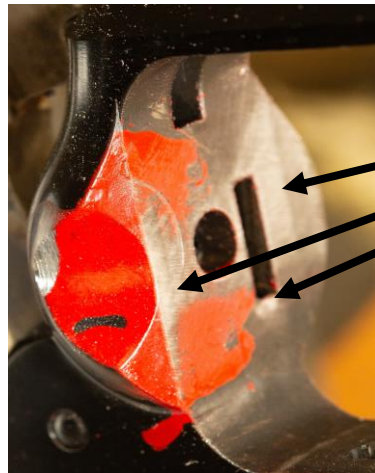

Fig 1a
b. The rear face of the ring should be flat against the frame. If there is a gap, the face of frame may have a burr or a raised surface. Remove burrs with a file or emery cloth. **Fig. 1a** shows where high surfaces have been removed.